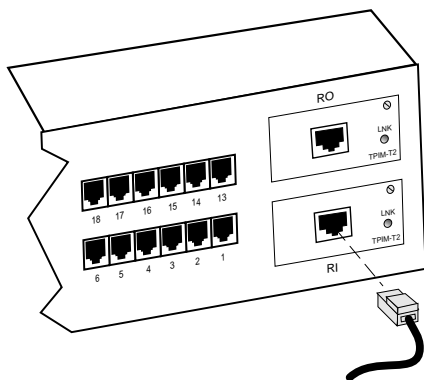

Figure 3-14. The TPIM-T2/T4
1. Insert the RJ45 connector on the twisted pair segment into the RJ45 port on the TPIM as shown in Figure 3-14.